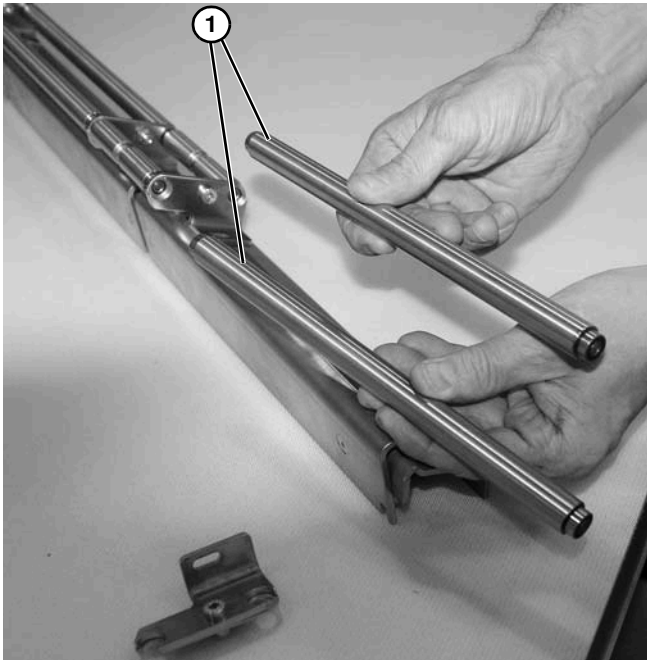

Figure 82
6. Remove spindles (**Figure 82, item 1**). Repair or replace spindles, as required.